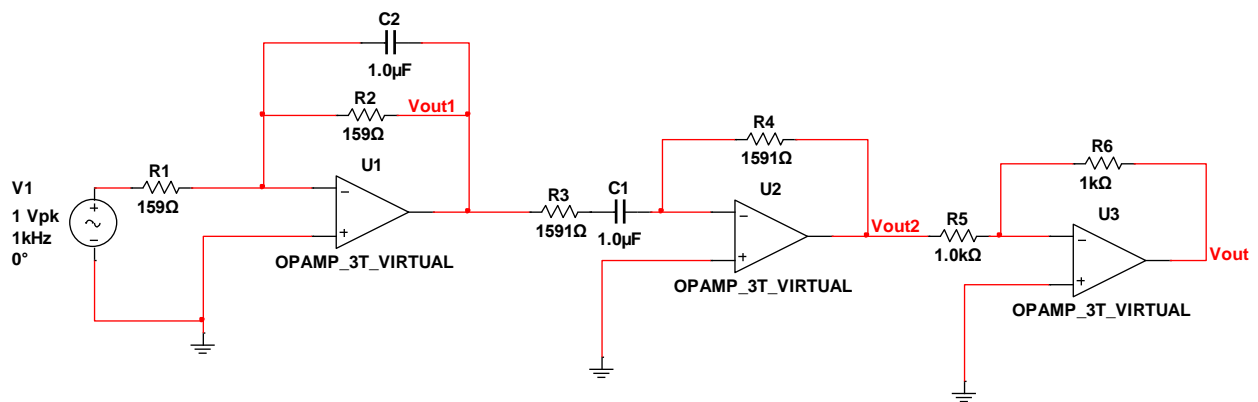

Figure 4: Broadband bandpass filter
3. Build the circuit in Figure 4 in MultiSim and run an AC analysis from 10 Hz to 100 kHz. What are the two cut off frequencies and the gain? You should include the gridlines and reverse the plot to have a white background. Include the plot in your prelab submission.